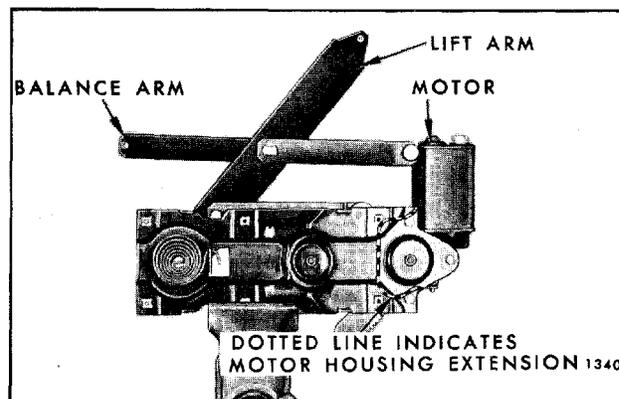

Fig. 7-96—Door Window Regulator and Electric Motor Assembly
1. Remove front door window electric regulator and clamp assembly in a vise (Fig. 7-96).
IMPORTANT: DO NOT drill into the motor housing, part of which is indicated by the dotted line illustrated in Figure 7-96. In addition, locate hole sufficient distance from edge of sector gear to insure proper retention of sector gear to back plate.
4. Remove regulator motor attaching bolts and remove motor from regulator assembly. (Fig. 7-96).